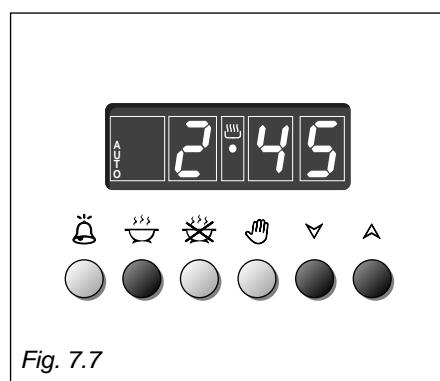

Fig. 7.7
1. Set the length of time you need to cook the food by pushing the ☰ button and the ⌂ button to advance, or ⌃ to go backwards (Fig. 7.7).